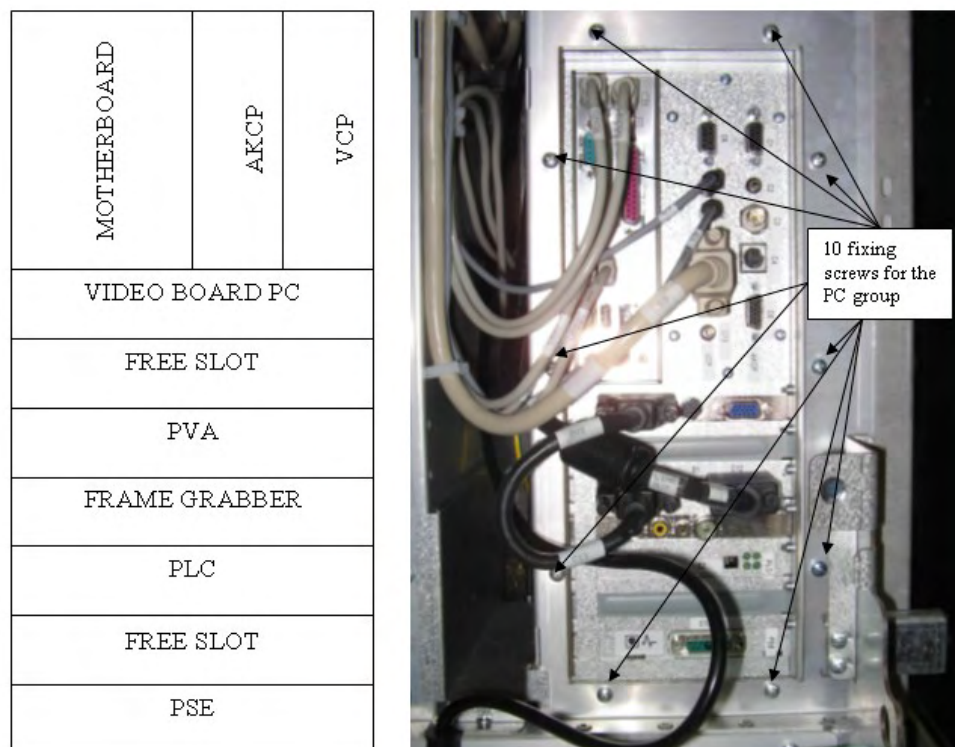

Figure 31.: Backside view of the PC group
- unscrew the ten screws on the backside panel which connect the PC group to the metallic chassis (see Figure 31)